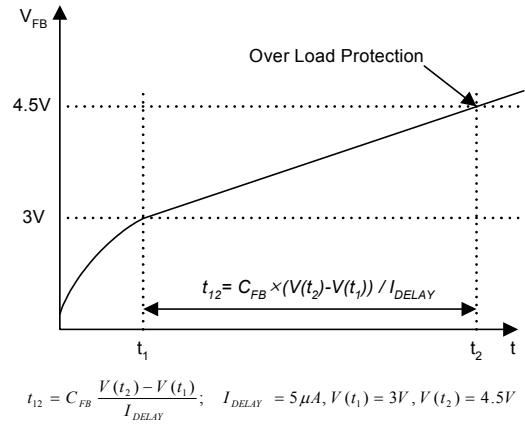

Figure 10. Over Load Protection (OLP)
**4.1 Over Load Protection (OLP) :** Overload is defined as the load current exceeding a pre-set level due to an unexpected event. In this situation, the protection circuit should be activated in order to protect the SMPS. However, even when the SMPS is operating normally, the over load protection (OLP) circuit can be activated during the load transition. In order to avoid this undesired operation, the OLP circuit is designed to be activated after a specified time to determine whether it is a transient situation or an overload situation. In conjunction with the Ipk current limit pin (if used) the current mode feedback path would limit the current in the Sense FET when the maximum PWM duty cycle is attained. If the output consumes more than this maximum power, the output voltage (Vo) decreases below its rating voltage. This reduces the current through the opto-coupler LED, which also reduces the opto-coupler transistor current, thus increasing the feedback voltage (VFB). If VFB exceeds 3V, the feedback input diode is blocked and the 5uA current source (I\_DELAY) starts to charge Cfb slowly up to Vcc. In this condition, VFB increases until it reaches 4.5V, when the switching operation is terminated as shown in Figure 10. The shutdown delay time is the time required to charge Cfb from 3V to 4.5V with 5uA current source.